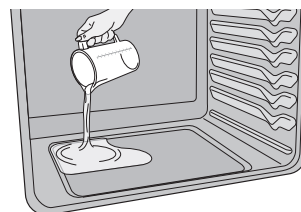

Figure 14: Add 1 cup of tap water
3. Pour 1 cup of tap water onto the oven bottom. (Figure 14) Close oven door.